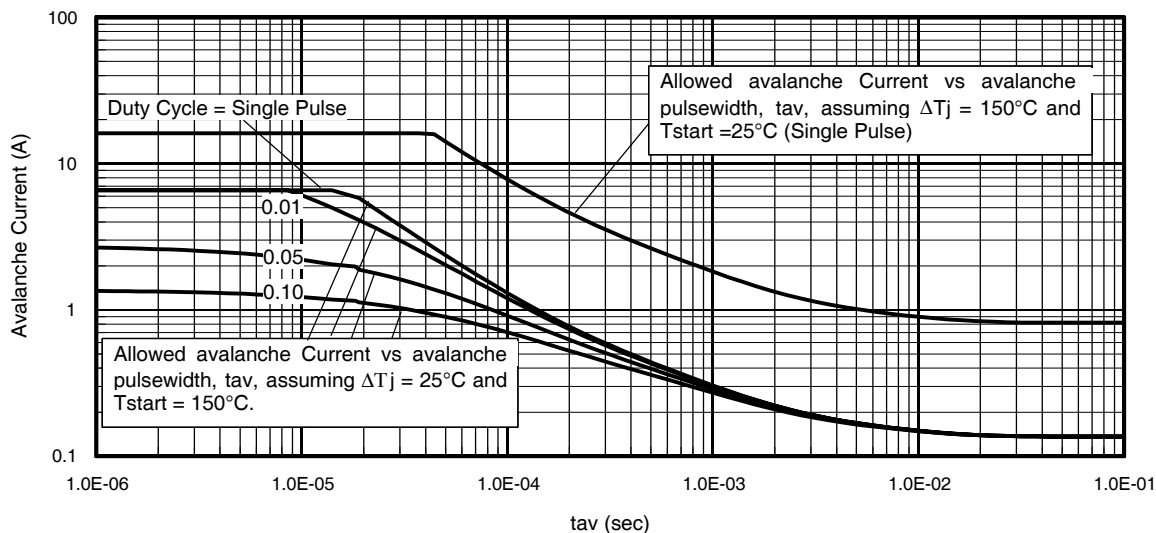

Fig 14. Typical Avalanche Current Vs. Pulsewidth
- ① Repetitive rating; pulse width limited by max. junction temperature. ④ R_{θ} is measured at T_J of approximately 90°C .
② Starting $T_J = 25^\circ\text{C}$, $L = 1.46mH$, $R_G = 25\Omega$, $I_{AS} = 10A$. ⑤ Limited by T_{jmax} . See Figs. 14, 15, 17a, 17b for repetitive avalanche information
③ Pulse width $\leq 400\mu s$; duty cycle $\leq 2\%$.
Notes on Repetitive Avalanche Curves, Figures 14, 15:
7. ΔT = Allowable rise in junction temperature, not to exceed T_{jmax} (assumed as 25°C in Figure 14, 15).